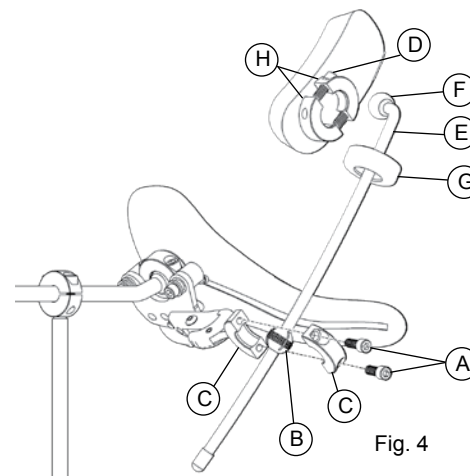

Fig. 4
9. Slide collar cover (Fig. 4, G) onto collar (Fig. 4, H).